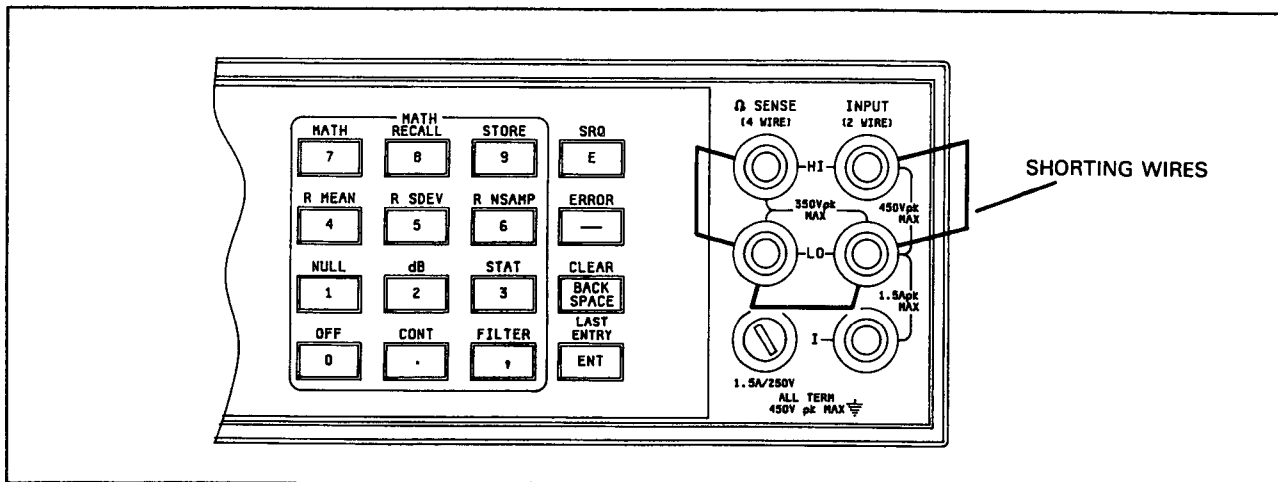

Figure 5-1. Input Connections for Four-Wire Ohms Offset Calibration
5-32. Equipment Required. A low thermal short (copper wire) is required for this procedure. (Refer to Figure 5-1).
b. Connect the short across the Front Panel HI and LO Input Terminals and the  $\Omega$  Sense HI and LO terminals as shown in Figure 5-1.